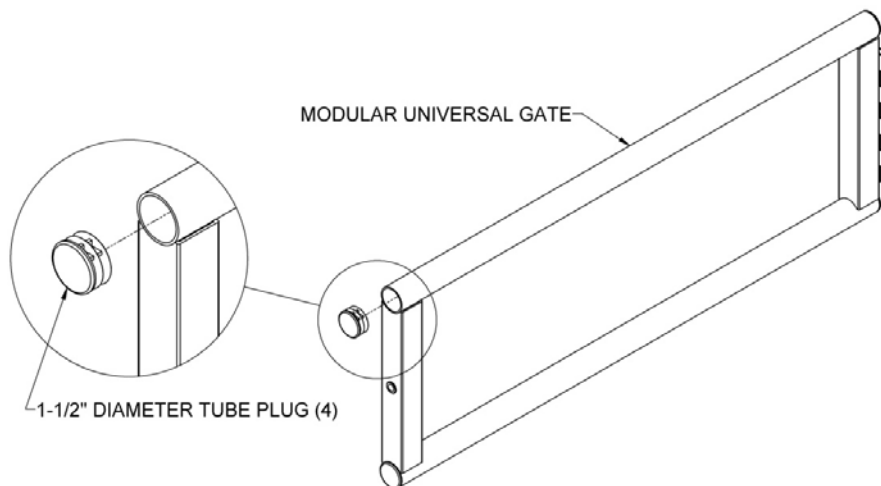

FIG. 1
2.1. Install the 1-1/2" diameter tube plugs into ends of the 1-1/2" diameter tubes on the gate (FIG. 1).